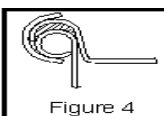

Figure 4
- POSITION & SEAT RING** – with lugs downward. Ensure the inner channel of the closure ring engages entire drum curl and cover (see Fig. 4). Apply downward pressure on cover. Use a non-sparking dead-blow mallet to further seat cover and drum curl into the inner channel of the ring.